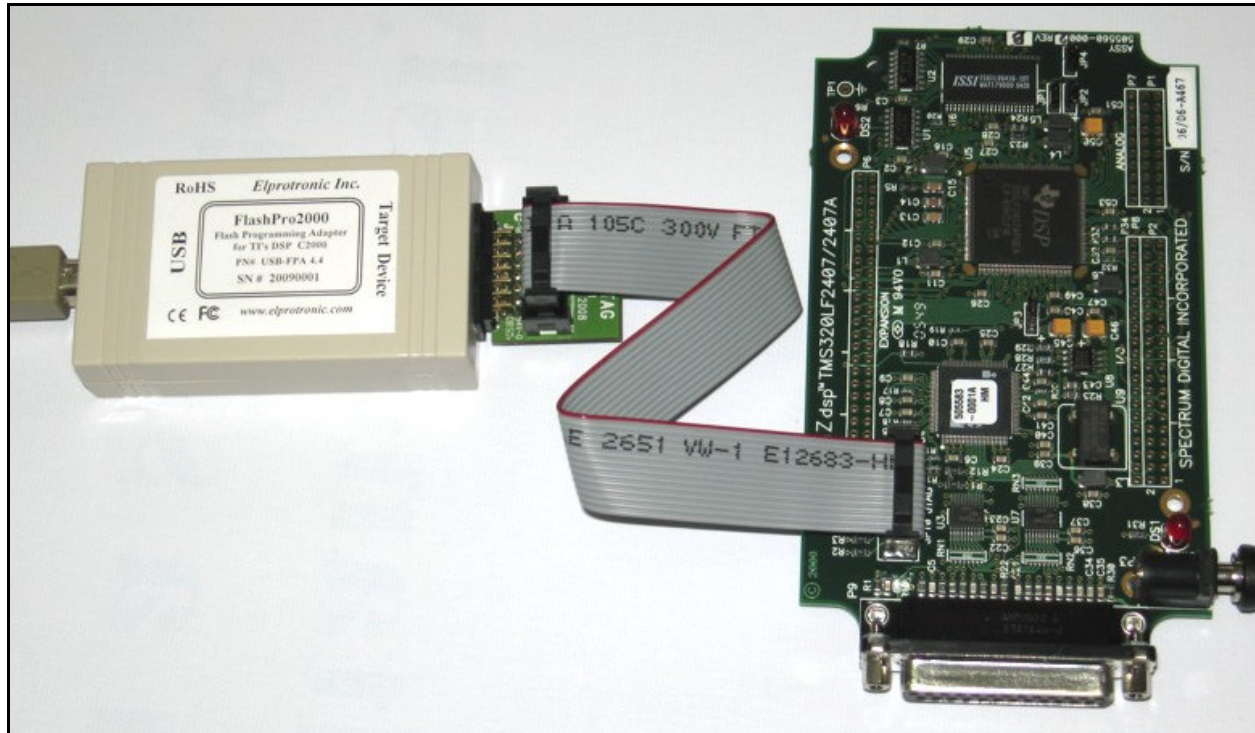

Figure 3.2-1
FlashPro2000 software support the USB-FPA versions 4.4 adapter and can communicate with target device via JTAG interface, or via SCI-BOOT interface. When the JTAG interface is used, then it should be plug-in the C2000-JTAG adapter between standard TI's JTAG connector and Programming Adapter FPA (Figure 3.2-1) .
2. Plug in C2000-JTAG adapter to FPA. Plug-in 14-wires ribbon cable between C2000-JTAG Adapter and header connector on your device board (Figure 3.2-1). Make sure that pin 1 on your device board's header is connected to pin 1 of the socket connector. Pin 1 is marked as a red cable on the ribbon cable.